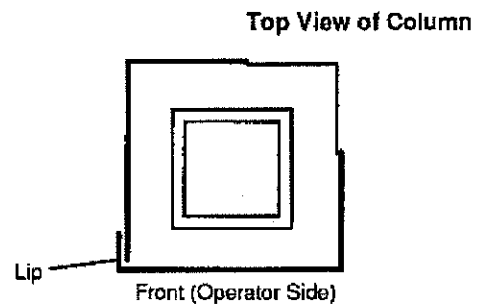

FIG. 32
3. Reattach the two sheet-metal covers. Note that one of the covers has a lip: install the lip **over** the other cover. See FIG. 32.